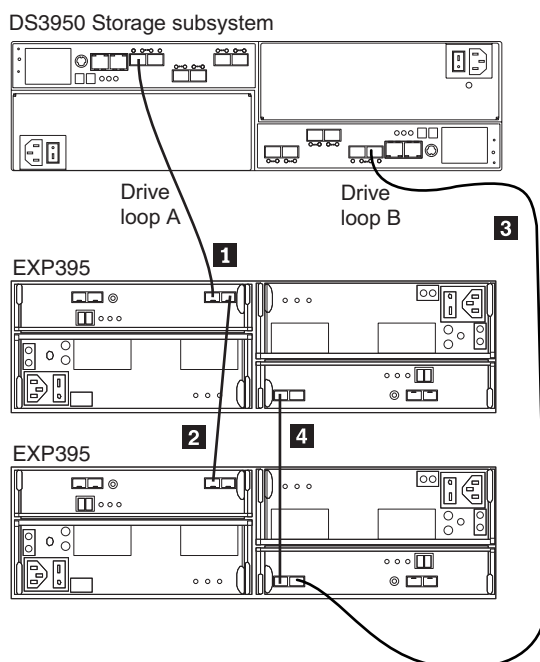

Figure 28. Correct EXP395 redundant drive loop configuration
- The controller drive ports of the DS3950 storage subsystem controllers must always be connected to the ports labeled 1B in both right and left ESMs of the EXP395s in the redundant drive channel/loop pair that is connected to the DS3950 storage subsystem. (Figure 28 on page 44 shows the location of the ports.)
Figure 28 on page 44 shows a redundant drive loop that you might create with a DS3950 storage subsystem and two EXP395s. The numbers provided in Figure 28 on page 44 show the order in which cables should be attached. Note that the controller port is connected to the port labeled 1B on both the right and left ESMs.
To create drive loop A (of the DS3950 redundant drive loop) shown in Figure 28, you would perform the following steps:
To create drive loop B (of the DS3950 redundant drive loop) shown in Figure 28, you would perform the following steps: